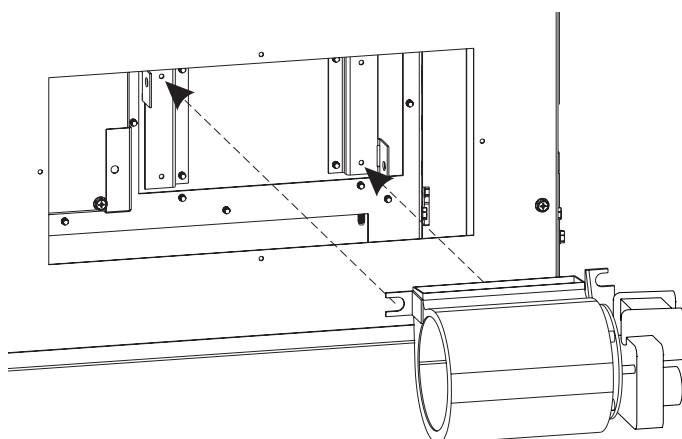

Figure 10
5. Place Blower onto Blower Brackets. See Figure 10.